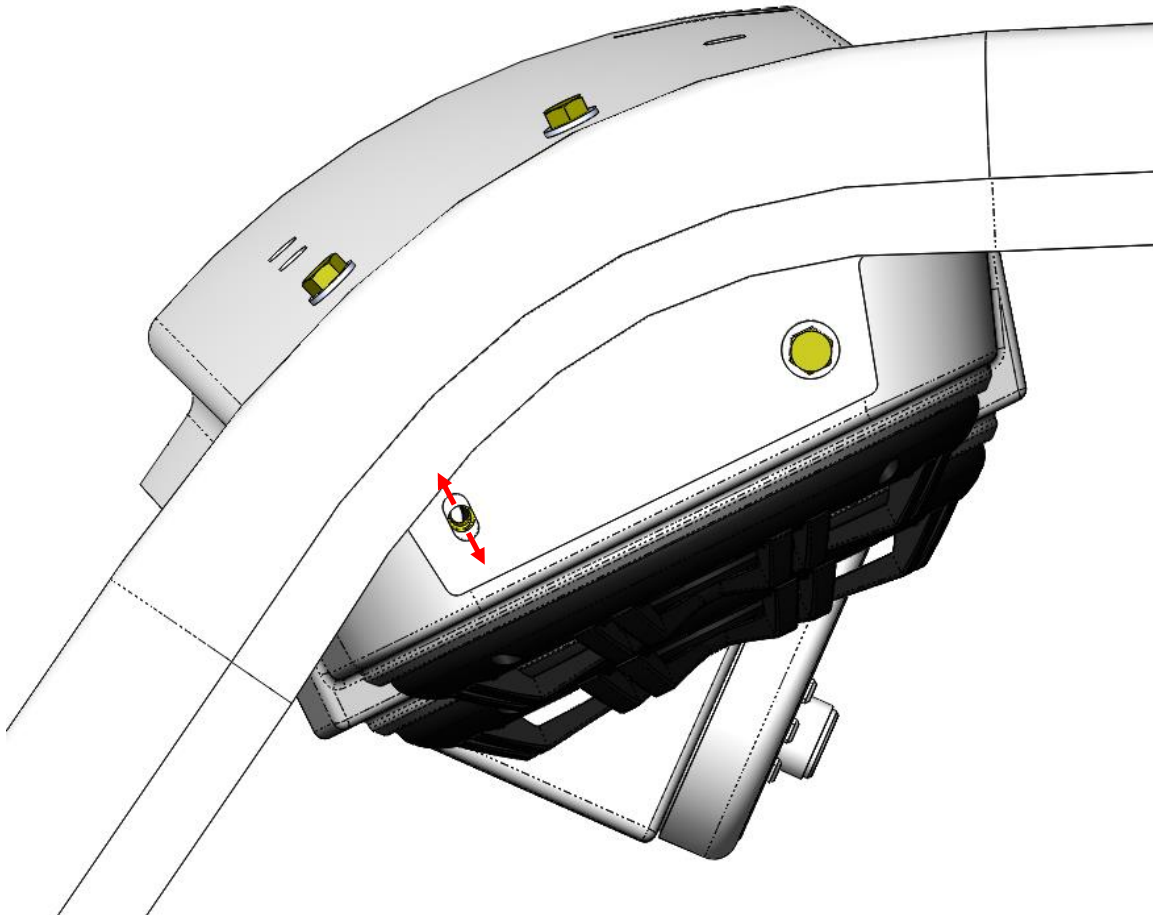

Figure 10: Up-down positioning of the Audio Mini.
6. Tighten the 4 mounting bracket bolts after achieving the desired up-down position relative to the visor. Slots in the brackets allow up-down movement. See Figure 10.